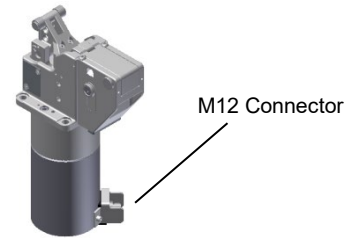

Fig. 2.12 M12 Connector Layout (EST50 and 80)
- For EST50 and 80, the connectors are directly connected to the Eco Electric Stop (Fig. 2.12). Pay attention not to apply excessive force to them.